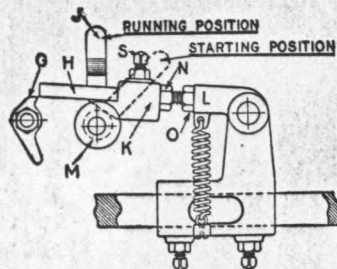

Figure 13
**Fourth.** See that the screws (Figure 13) which fasten the clamp to the push rod are tight and that the one nearest the cylinder head is in the hole in the bottom of the cam rod, then adjust the length of push rod "H" (Figure 13) until the end of the rod touches the push finger "G". Tighten locknut "O".
**Sixth.** Take off the tripping lever, be sure the magneto wire is fastened to the terminal. Turn the flywheels to the right to see if the magneto trips off when the word **Spark** is opposite the top of the cam rod. If not, adjust the wedge "K" (Figure 13) carefully until it does. To make engine fire earlier, move wedge "K" toward magneto. To fire later, move wedge "K" away from magneto.